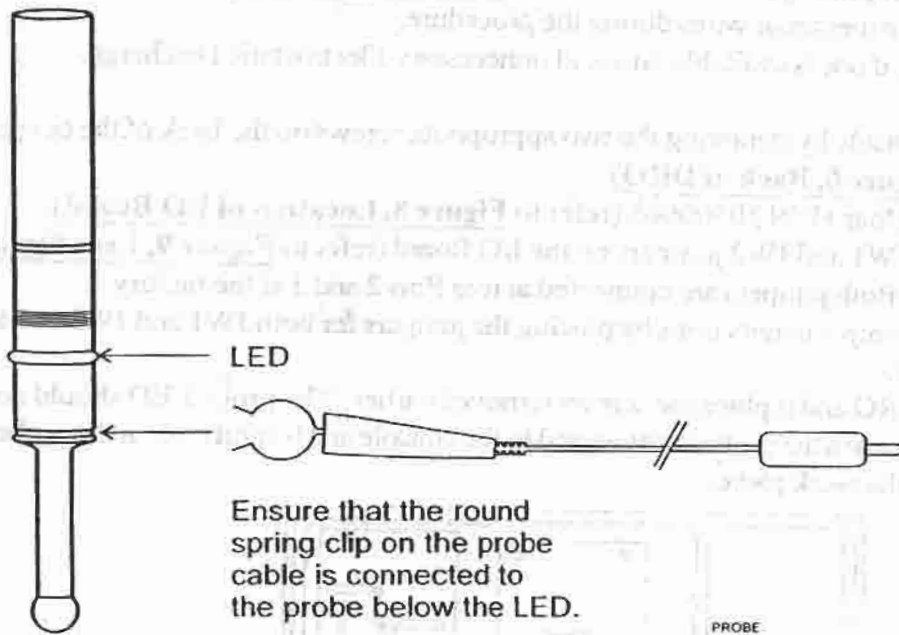

Figure 7, Connecting the Probe
2. Place the round spring clip in the appropriate groove on the probe. (Refer to **Figure 7, Connecting the Probe.**)